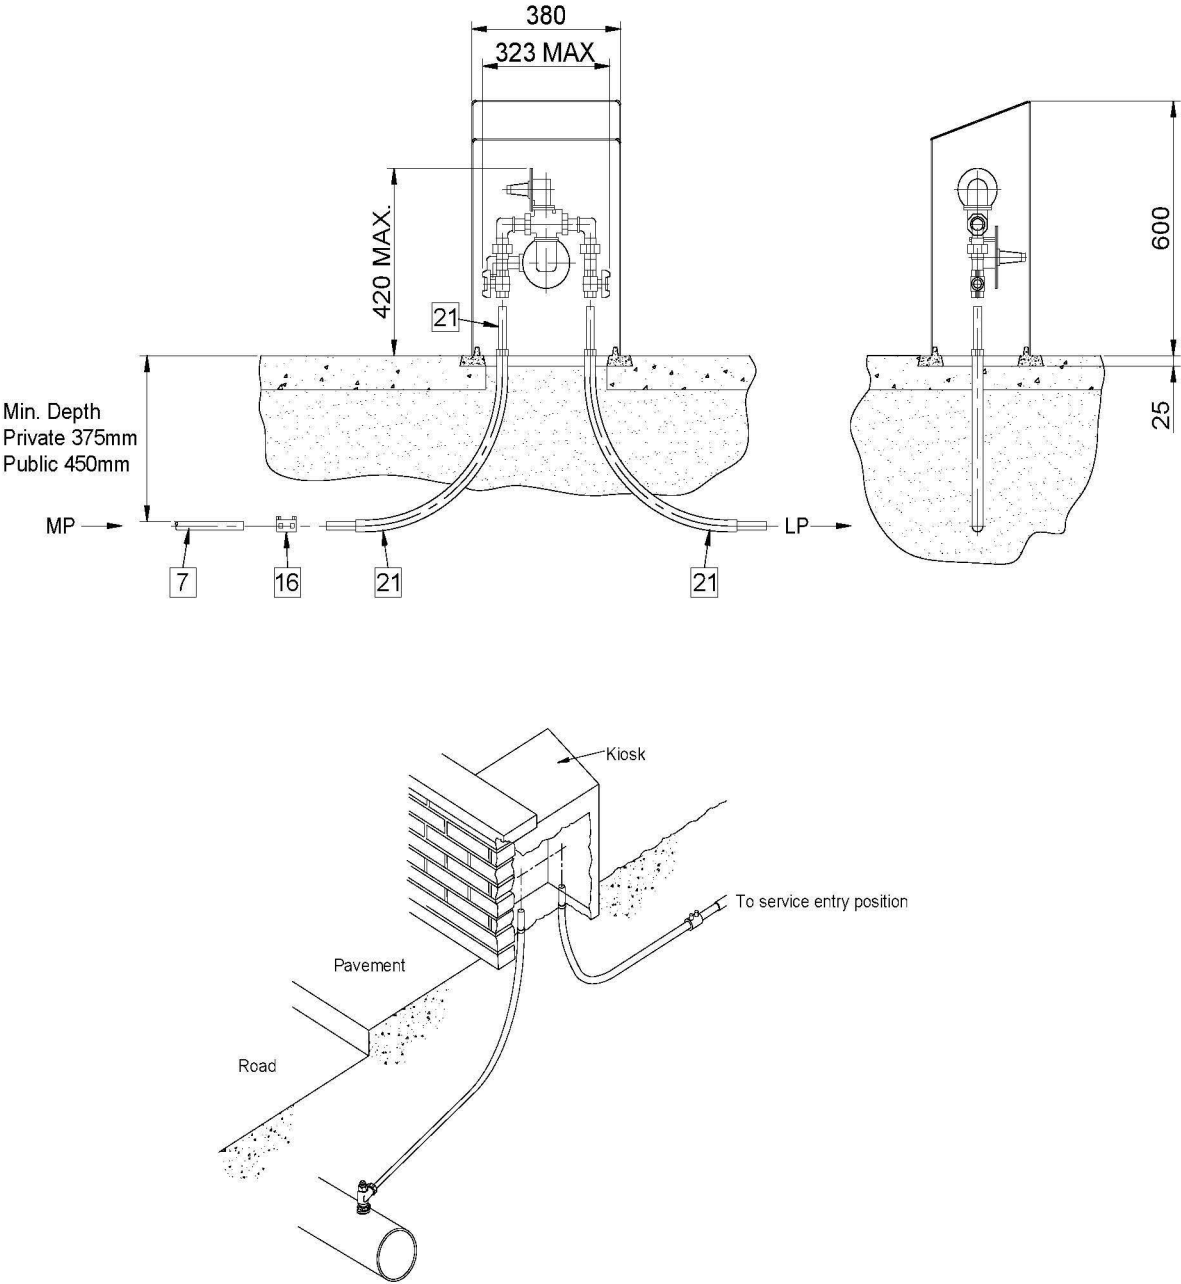

Figure D13 - MP Service - boundary service regulator
3. PE / Steel transition fittings should be used on the inlet and outlet to the regulator in accordance with Figure D13.
Material listing for Figure D13